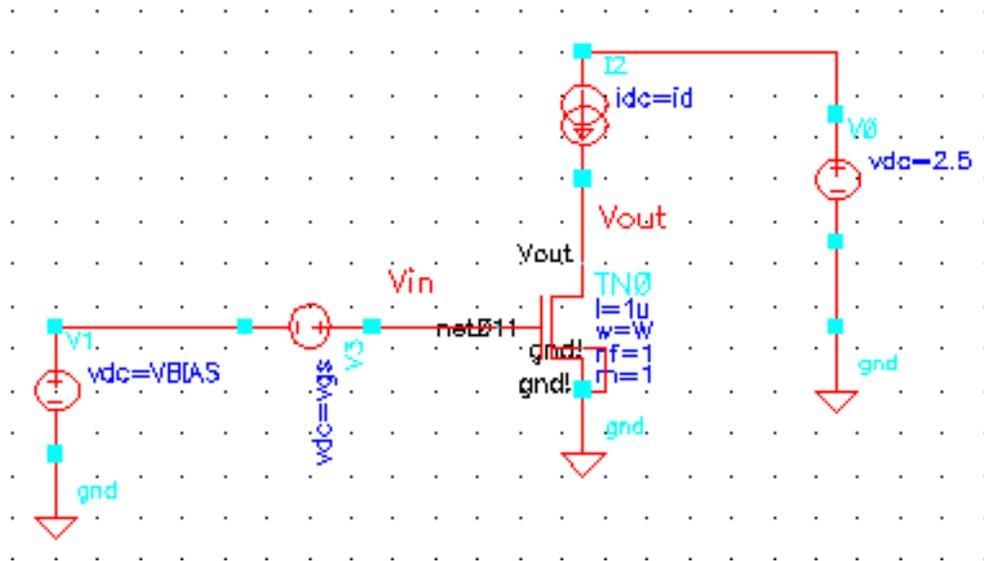

Fig 1. Schematic for Part 1
- 1) Start Cadence and create a new library for Lab 2 and a new cell for the first circuit. Start by drawing the schematic shown in *Figure 1*. There are two DC sources at the input of the amplifier. One is to bias the circuit to the desired operating point. You will choose the value of V_{BIAS} . The other DC source will be used as the small signal input to the transistor. We will sweep the voltage of this source, v_{gs} . The load for part 1 will be an ideal current source. This can be found in the *analogLib* as cell *idc*. Also, names have been given to the nodes V_{in} and V_{out} , so we can refer to them in this lab.